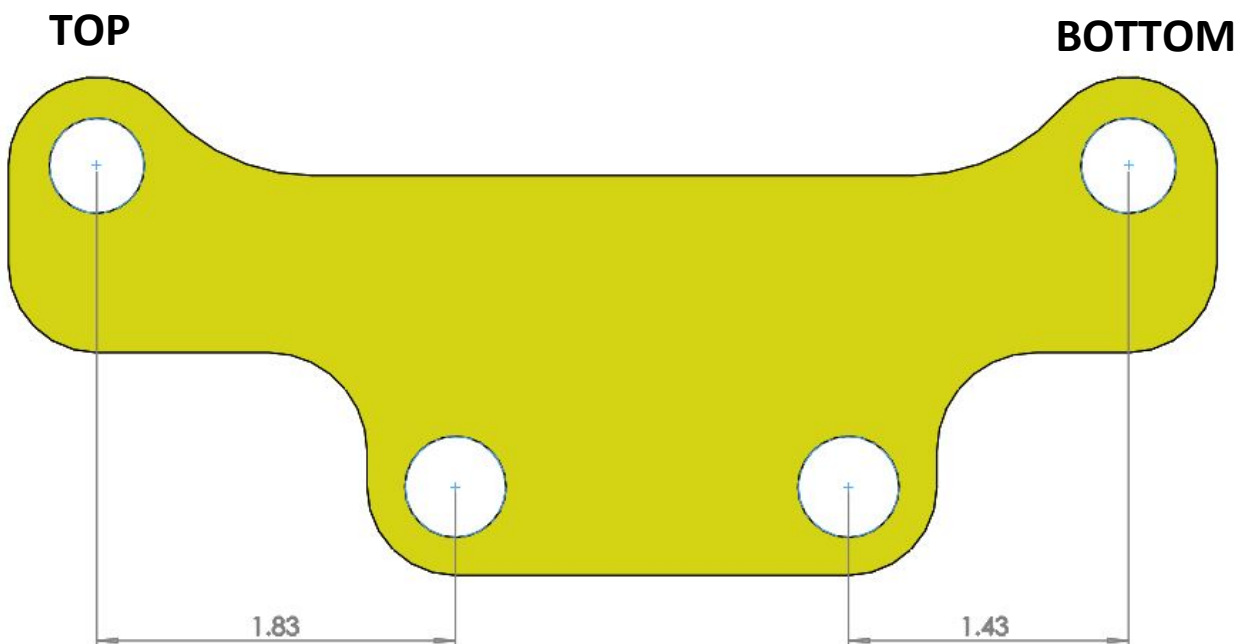

Figure 2 – Determining Top and Bottom for Intermediate Caliper Mounting Bracket
- Next, install the Intermediate Caliper Mounting Bracket onto the Primary Caliper Mounting Bracket. The intermediate caliper bracket installs to the rear of the primary bracket with the provided bushing spacers installed between the primary and intermediate brackets. Use two $\frac{1}{2}$ "-20 x $2\frac{3}{4}$ " Grade 8 Hex Head Bolts along with flatwashers and nuts. **IMPORTANT:** The intermediate bracket has a top and a bottom. To assemble, install the bracket so the long side installs to the top. Refer to Figures 2 and 3 for additional information on how to install. Do not torque these bolts at this time as they will be removed later for shim installation.